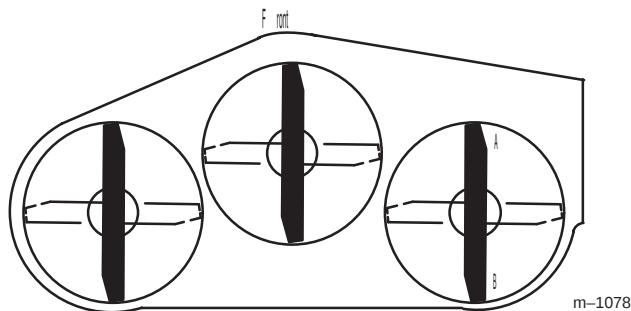
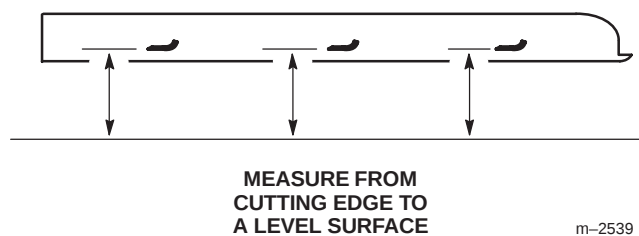

Figure 70
Figure 71
1. Position the **right** blade front-to-rear (Fig. 70).
2. Measure the right blade at the **A** location (Fig. 70), from a level surface to the cutting edge of the blade tip (Fig. 71).
4. Measure the right blade at the **B** location (Fig. 70), from a level surface to the cutting edge of the blade tip (Fig. 71).
6. The mower blade should be a **1/4 to 3/8 inch (6 to 10 mm) lower at position A than at position B** (Fig. 70). If it is not correct, proceed to the following steps.